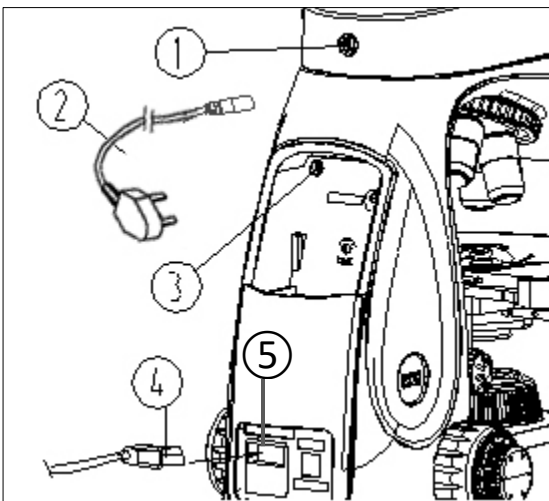

Fig. 32
5. Insert one end of the power cable ② into the power socket ① of the LED fluorescence illuminator back, and then insert the power adapter plug into a suitable electrical receptacle. Ensure both connections are secure. (See Fig. 32)
6. Insert one end of the external power cord ④ into the power socket ⑤ of the microscope back, and then insert the other end into the power supply receptacle. Ensure both connections are secure.